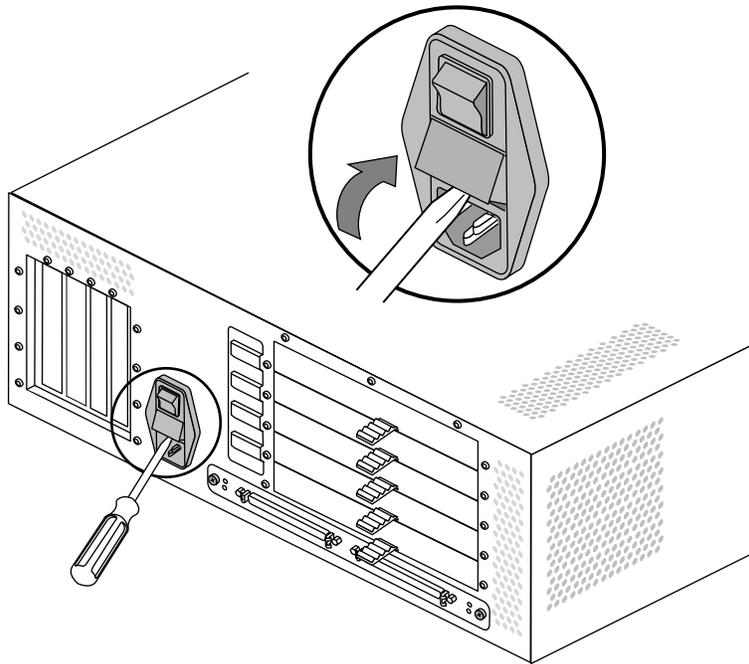

Figure 5-44 Removing the Fuse Cover From a GIGAchannel Expansion Chassis
3. Insert a small, flat-blade screwdriver in the notch of the fuse cover and pry outward. The fuse cover should release. See Figure 5-44.